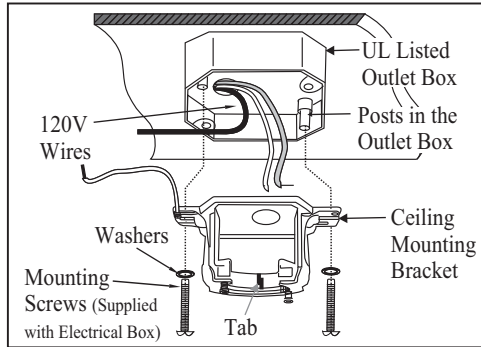

Figure 6
1. Pass the 120-volt supply wires through the center hole in the ceiling mounting bracket as shown in Figure 6.
2. Install the ceiling mounting bracket to the outlet box; be sure to align the holes in the hanger bracket with the post holes in the outlet box and secure with screws and washers provided by the outlet box. (Fig. 6)